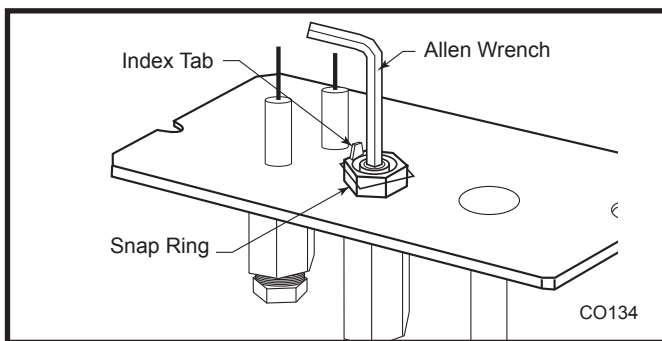

Fig. 57 Remove pilot orifice.
2. Remove pilot orifice with 5/32" Allen wrench. (Fig. 57)